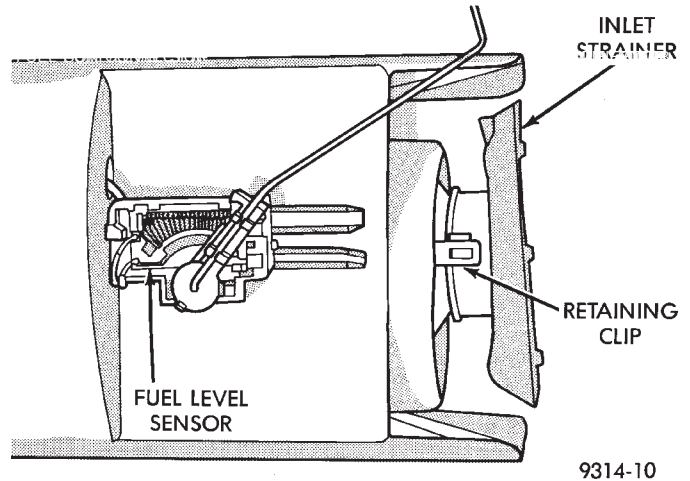

Fig. 29 Inlet Strainer Removal
- (1) Remove fuel pump module. Refer to Fuel Pump Module Removal in this section.
- (2) Using a thin straight blade screwdriver, pry back the locking tabs on fuel pump reservoir and remove the strainer (Fig. 29).
- (3) Remove strainer O-ring from the fuel pump reservoir body.
- (4) Remove any contaminants in the fuel tank by washing the inside of the fuel tank.